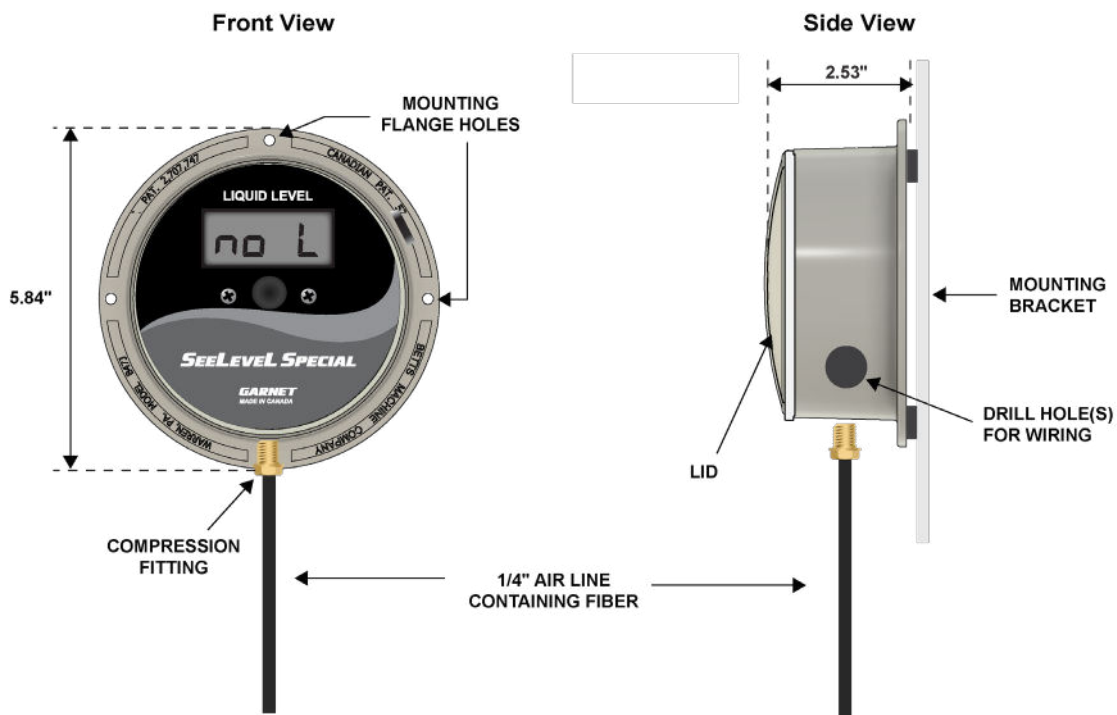

Figure 3.3.4b Display Assembly
2. The display enclosure should be mounted using the mounting flange holes. If the holes are not pre-drilled in the display enclosure, drill holes into the enclosure close enough to the base to avoid contacting the lid flange (See Figure 3.3.4b).